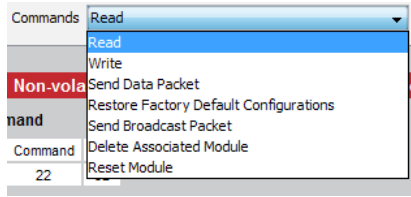

Figure 17: The Master Development System Software Command Set Tab Commands Menu
3. The Commands drop-down menu shows all of the commands that are available for the active module (Figure 17). Selecting one of the commands from this menu automatically fills in the Command box. The values can be adjusted by typing in the box.